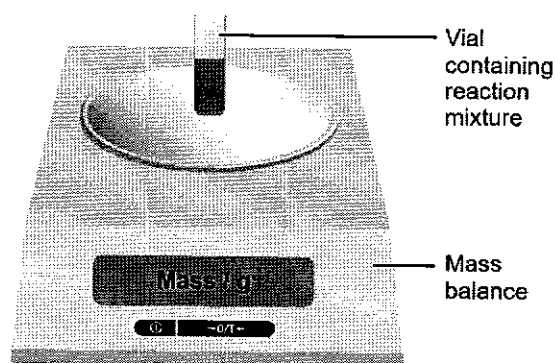

Fig. 2.1
- 4 Weigh the mass of the reaction mixture, including the weight of the vial, using the set-up shown in Fig. 2.1.